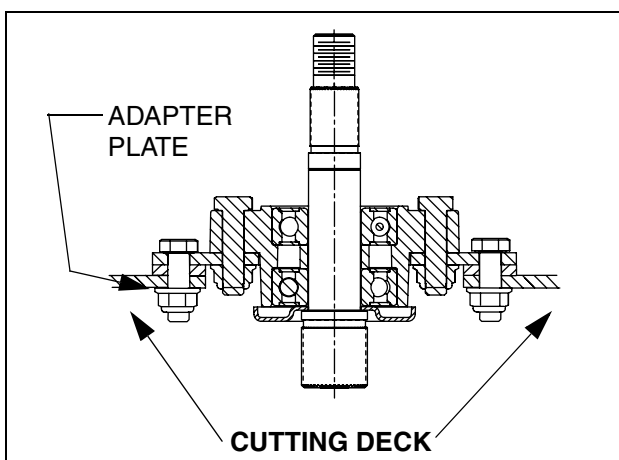

FIGURE 3
11. Install two (2) of the Hex Screws, Item 2, through opposite side holes in the Bearing Assembly. Slip the Adapter Plate, Item 5, onto the two screws and install the spindle assembly onto the top side of the cutting deck. See Figure 3.